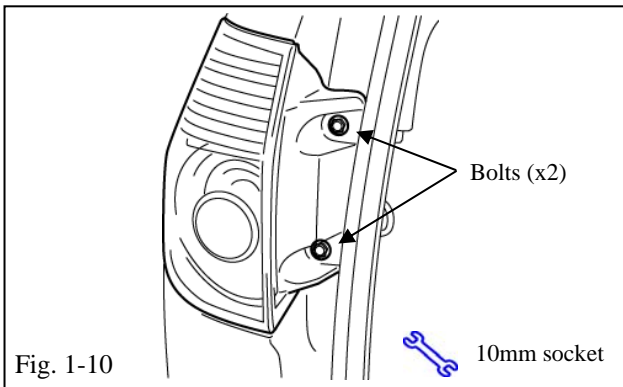

Fig. 1-10
(j) Remove the two (2) bolts; then remove the left rear tail lamp assembly. (Fig. 1-10)